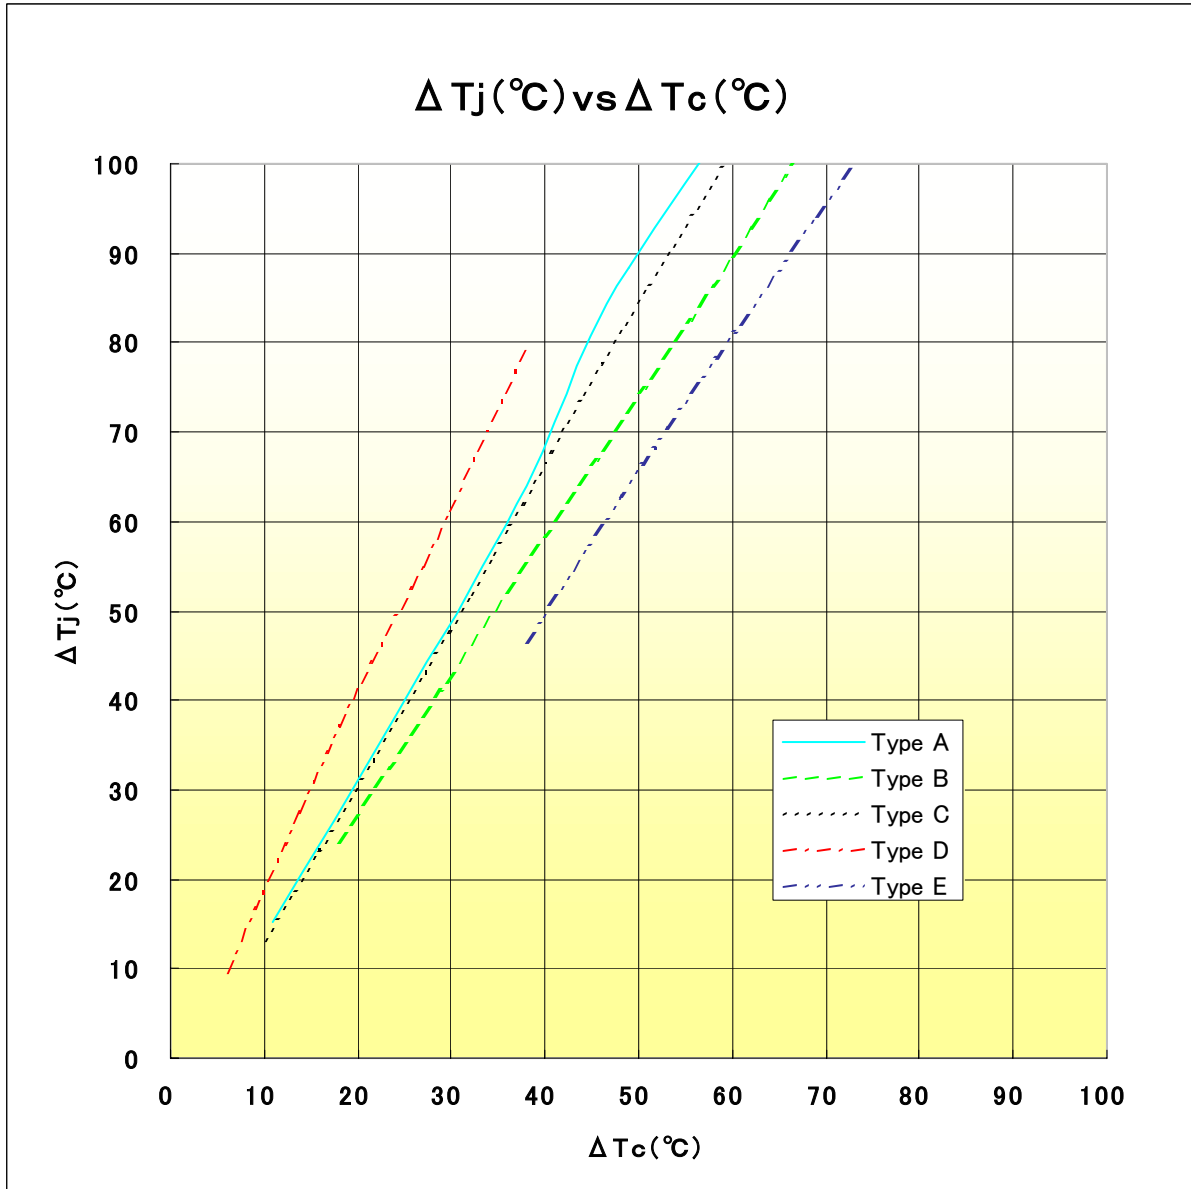

Fig.6 The graph indicates the correlation between the Tj, calculated by the Vf measurement method, and the actual Tc measurement value.
First, we calculated $R_{ja}(T_j)$ by using the V_f measurement method (See Equation (1)). After that, we measured the T_c of the same sample, and by using this information we were able to form the T_c - T_j correlation in Fig.6. Therefore, you can infer T_j from the T_c value since the T_j - T_c correlation, as shown in the experiment, has a certain width differential.